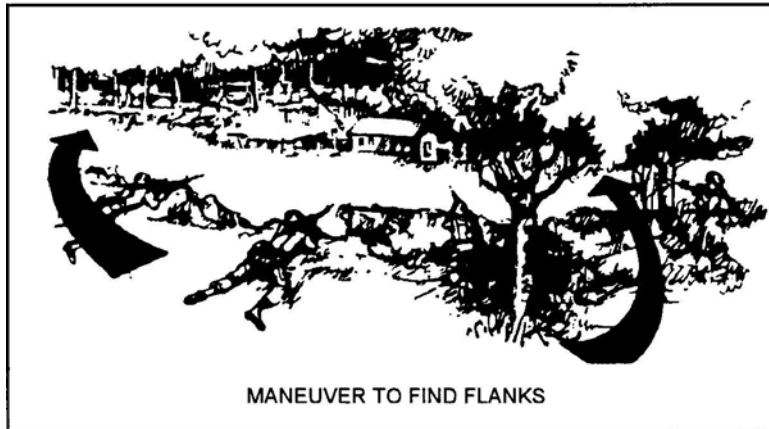

Figure 2. Determine enemy location.
2. Determine enemy location, disposition, and strength. The squad gains information, not revealed by the initial contact, by careful maneuver against the enemy to determine his flanks or weak points (Figure 2). This process of fighting through enables the squad to continue to advance against the enemy without undue risks. If the initial contact reveals that the enemy is clearly superior, the squad does not risk moving toward him. Instead, it holds in place, returns fire, and serves as a base-of-fire